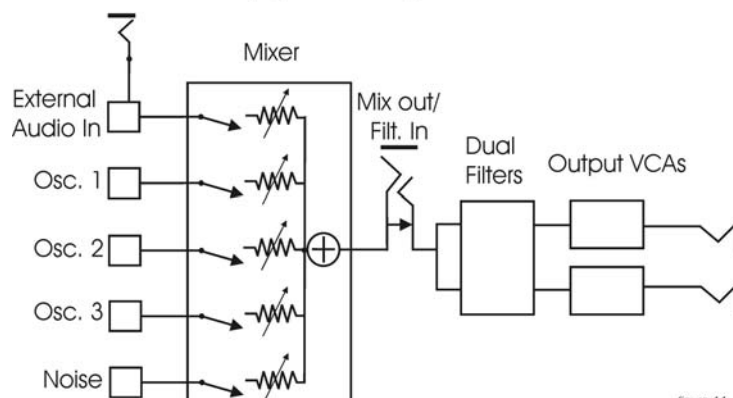

figure 14
- The Envelopes section contains one ADSR envelope generator for the Filters, and one ADSR envelope generator for the Output VCAs. The audio path is illustrated in figure 14.